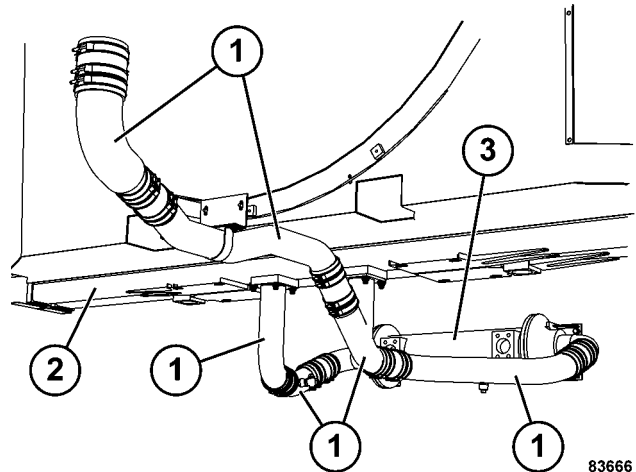

FIGURE 50-5. HEAT EXCHANGER PIPING
14. Remove all piping (1, Figure 50-5) from the engine water pump and radiator (2) to heat exchanger (3).